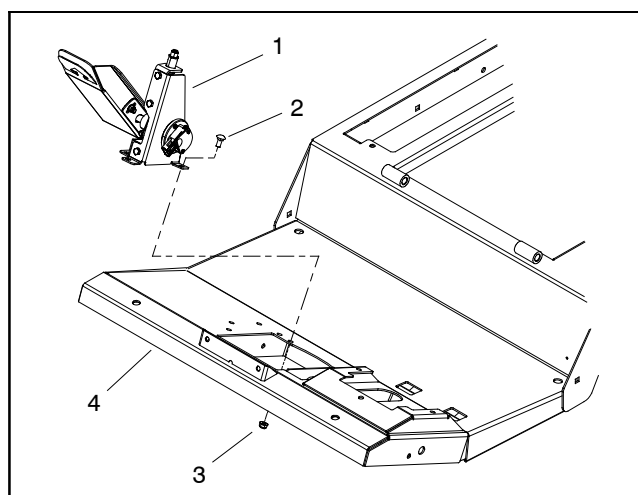

Figure 21
5. Remove fasteners that secure traction pedal assembly to operator platform and then remove traction pedal assembly from platform (Fig. 21).
2. Carefully lower operator platform and position over center mounts (item 4) that are installed in the frame.
3. Secure operator platform to machine frame with four (4) cap screws, flat washers, plain washers and lock nuts. Torque lock nuts from **95 to 115 ft-lb (129 to 155 N-m)**.
7. Position traction pedal assembly to operator platform and secure with removed fasteners (Fig. 21). Connect machine wire harness connector to position sensor on traction pedal assembly.